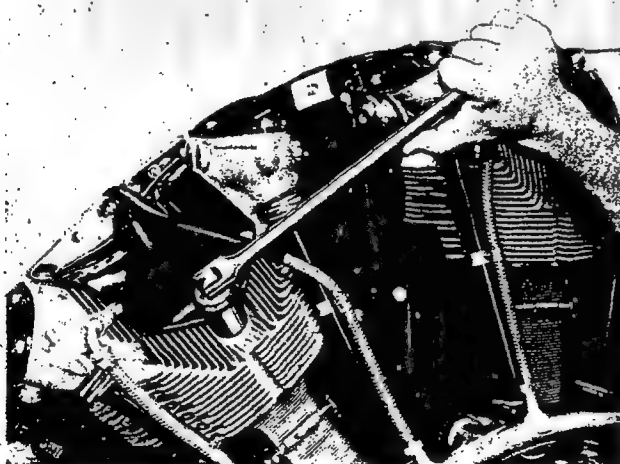

Figure 45—Removing Spark Plug
(1) Remove the four exhaust stack attaching nuts and lock washers. It may be found necessary to remove whole or part of the exhaust manifold in order to facilitate the removal of the cylinders.
(2) Disconnect the ignition leads to the front and rear spark plug terminals and remove the air deflectors in accordance with the instructions given in paragraph 3 of this section.
(3) Remove the intake pipe following the instructions in paragraph 5 of this section. It may be necessary to remove the intake pipe of the adjacent cylinder for accessibility.
(4) Remove the rocker box covers, rocker arms, push rods and housings according to paragraph 9 of this section.
(5) To remove cylinders adjacent to the two main front to rear ignition shielding conduits, it will be necessary to remove all the attaching clamps, and the knurled nuts on the shield assembly. Otherwise the cylinder hold-down cap screws will not be accessible.
(6) To remove the cylinders adjacent to the oil sump, the oil sump must first be removed following the instructions outlined in paragraph 6 of this section.
(7) To remove the spark plugs, loosen the spark plug terminal elbow coupling nut from all spark plugs. Withdraw the elbows from all spark plugs and remove the plugs. Use spark plug wrench (Tool No. 84450) for 7/8 inch hexagon spark plugs and wrench (Tool No. 84414) for 1 inch hexagon spark plugs. See figure 45. Place the plugs in a board hav-